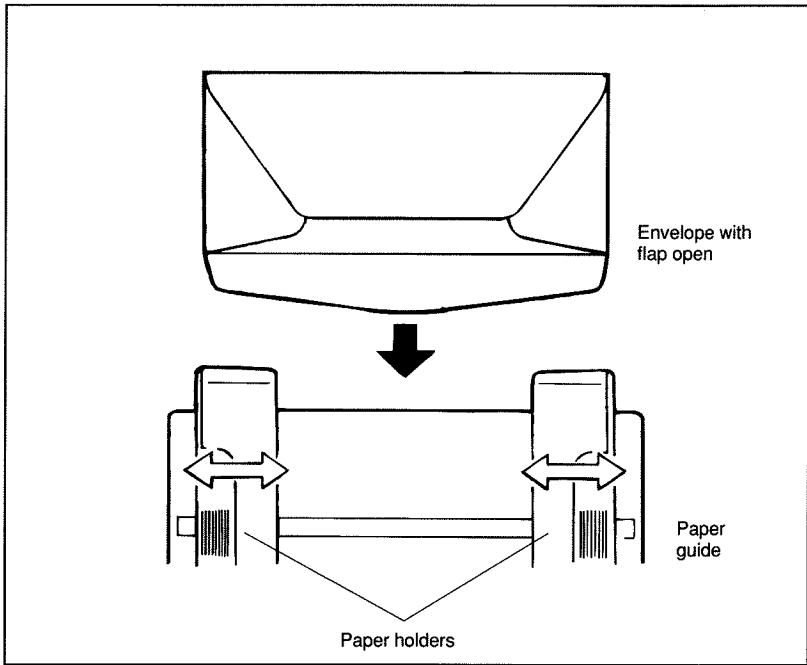

Figure 3-10. Adjusting the paper holders for printing with envelopes.
5. Set the left paper holder (see Figure 3-10). Insert the envelope just enough to adjust the right paper holder to the envelope width; then, remove the envelope momentarily.
7. Insert the envelope head in, face down, flap open between the paper holders (as you would load paper in a typewriter). See Figure 3-10. Push the